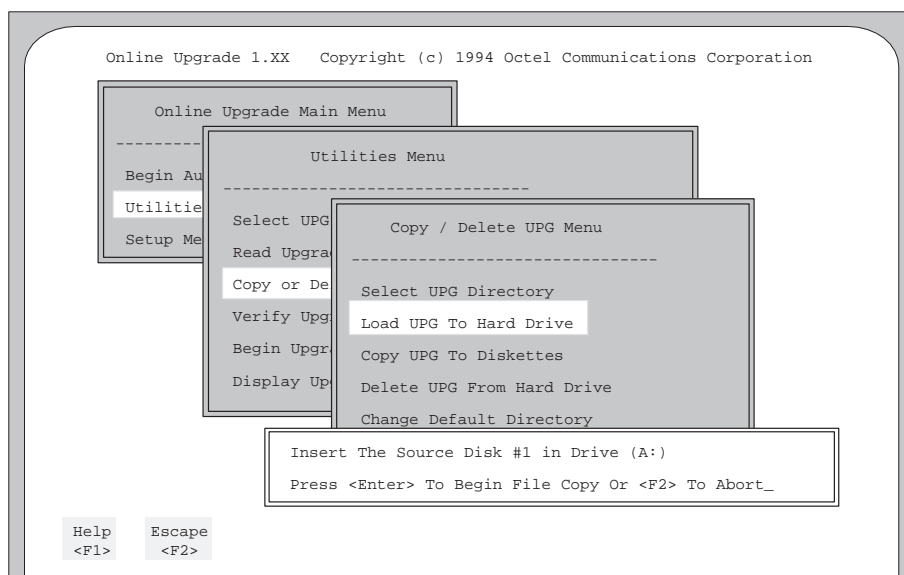

Figure 13-9. Screen Prompts for Beginning the File Copy.
- From the Copy / Delete UPG menu, select the Load UPG To Hard Drive option, then press **Enter**. Prompts appear in a prompt box near the bottom of the screen, as shown in Figure 13-9.